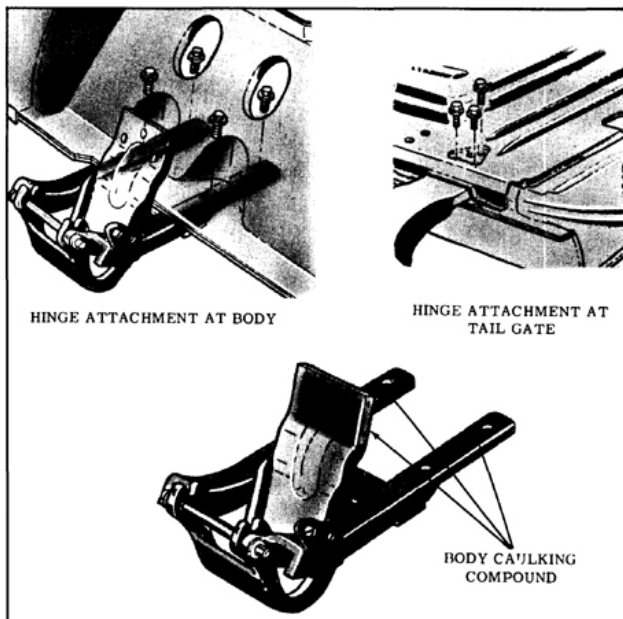

Fig. 16-202 Hinge Sealing and Installation
body caulking compound around hinge where it enters the tailgate. (Fig. 16-202)
7. To install, reverse the removal procedure. Apply heavy-bodied sealer to the attaching surfaces of hinge straps or corresponding surfaces of the body and tailgate. (Fig. 16-202)